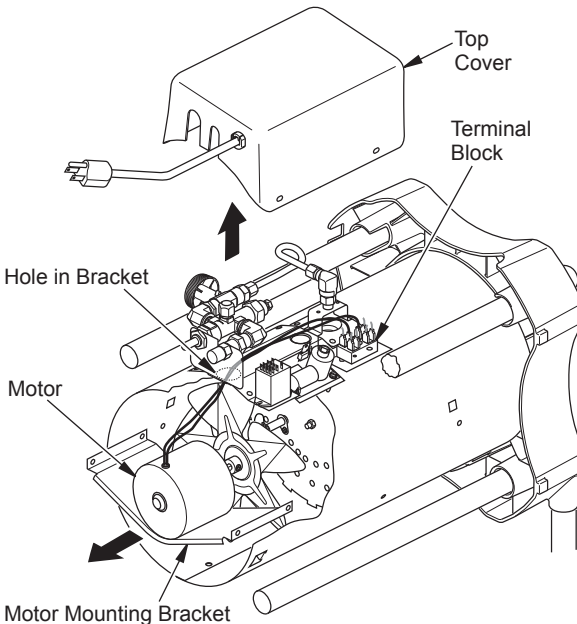

Figure 6 - Removing Fan and Motor
3. Detach the motor and fan wires from terminal block under top cover (see Figure 6, page 9).
18. Route motor wires through hole in top of shell (see Figure 6).
19. Reconnect motor and fan wires to the same posts on terminal block as removed in step 3, page 8 (see Figure 6).
19. Route motor wires through hole in top of shell (see Figure 6, page 9).
20. Reconnect motor wires to the same posts on terminal block as removed in step 3, page 8 (see Figure 6, page 9).